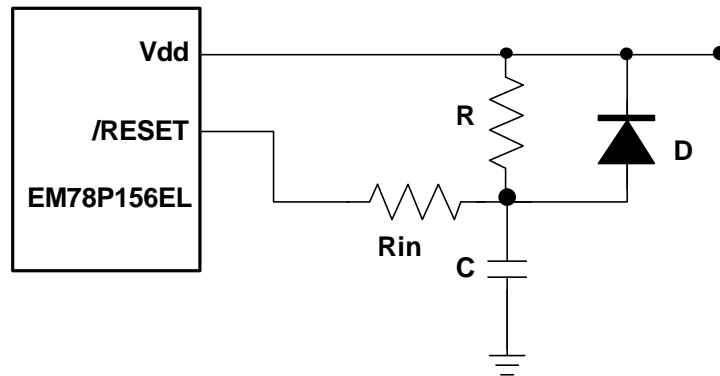

Fig. 16 External Power-Up Reset Circuit
The circuit shown in Fig.16 implements an external RC to produce the reset pulse. The pulse width (time constant) should be kept long enough for Vdd to reached minimum operation voltage. This circuit is used when the power supply has slow rise time. Because the current leakage from the /RESET pin is about $\pm 5\mu A$, it is recommended that R should not be greater than 40 K. In this way, the /RESET pin voltage is held below 0.2V. The diode (D) acts as a short circuit at the moment of power down. The capacitor C will discharge rapidly and fully. Rin, the current-limited resistor, will prevent high current or ESD (electrostatic discharge) from flowing to pin /RESET.